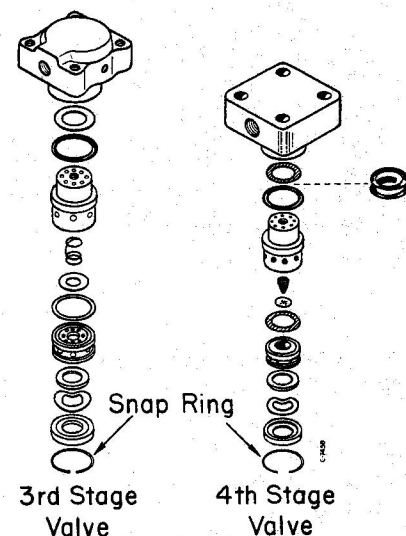

Figure 3-2. Plate-Type Valve
Refer to Figure 3-2 and remove the 3rd or 4th stage air head from the cylinder and pull the valve out of the head. Note: If necessary, soak the valves in a suitable carbon solvent overnight to permit easier disassembly.
(C) When reassembling the valve, make certain all parts are replaced exactly as removed and that the gaskets and "O" rings are not damaged. Figure 3-2 illustrates the relationship of these parts. Note: The "O" rings are made of special high temperature resistant material and are to be replaced with genuine I-R replacement "O" rings only.